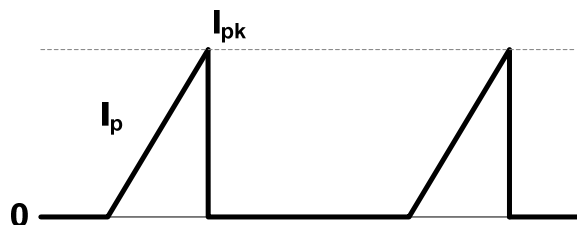

Figure 4: Primary Current Waveform
When the current $I_p(t)$ rises up to I_{pk} (see Figure 4), the primary switch turns off. The value of I_{pk} can be calculated with Equation (2):